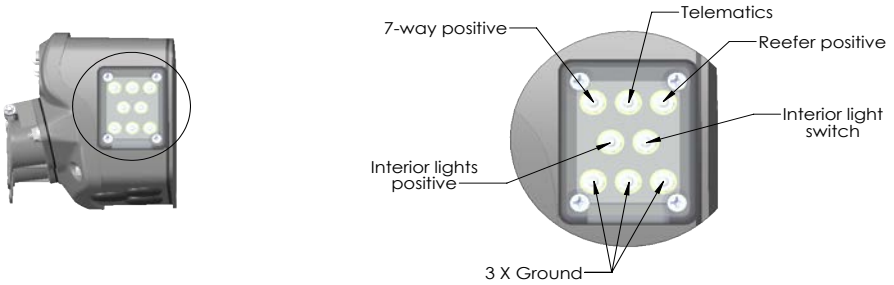

Figure 2
Step 1: Terminate the Interior Light positive wire with a #10 ring terminal and connect to the Interior Lights Positive (see Figure 2).
Step 2: Terminate the Interior Light negative wire with a #10 ring terminal and connect to Ground (see Figure 2).
Step 2: Terminate the Interior Light positive wire with a #10 ring terminal and connect to the Interior Lights Positive (see Figure 2 on page 14).
Step 3: Terminate the Interior Light negative wire with a #10 ring terminal and connect to Ground (see Figure 2 on page 14).